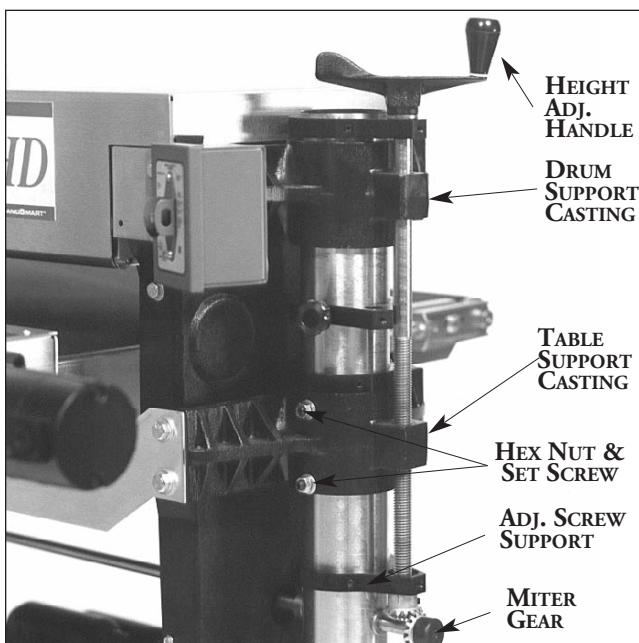

Fig. 19. Table support casting set screws.
When troubleshooting the height adjustment mechanism, first check the conveyor table for level (see page 7). Then test the height adjustment mechanism (See Fig. 19). If it does not operate
1. Loosen the set screws located at the front of the table support castings (Fig. 19).
3. If the height adjustment feels stiff, check for misalignment of adjusting screw supports and the drum support castings which could cause binding on the adjusting screw rods (Fig. 19). These castings can be adjusted by loosening the set screws which secure them to the column tubes. Realign the adjusting screw supports by loosening the two set screws that hold them to the column tubes and rotate to the proper position.
left (outboard) drum supporting casting (Fig. 19) must both be set at the proper height along the column tubes so the height adjusting screws provide for proper miter gear alignment. Before adjusting these parts, tighten one set screw in the table support castings (Fig. 19) to hold the height adjusting screw in position during adjustment.
Also check to see that the column tubes are centered inside the bore of the table support castings (Fig. 19). If not, loosen the casting bolts and tighten the set screws at the front of table support casting to center the tube. Retighten the bolts and loosen the set screws.
distance should be $1/32$ " or less. If there is excessive space, move the adjusting screw support to the proper distance above the miter gear and retighten. Loosen the set screws in the table support castings (Fig. 19) and test for smooth operation.